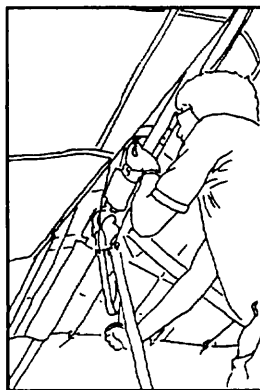

Figure 57
- 4) At the control bar apex, remove the safety and wingnut from the crossbar restraint cable. Use the perlon as you did during set up to pull the crossbar back and take the load off the crossbar cable, and pull the bolt out of the keel. Replace the other side cable thimble, the wingnut and the safety on the bolt. (Figure 57)